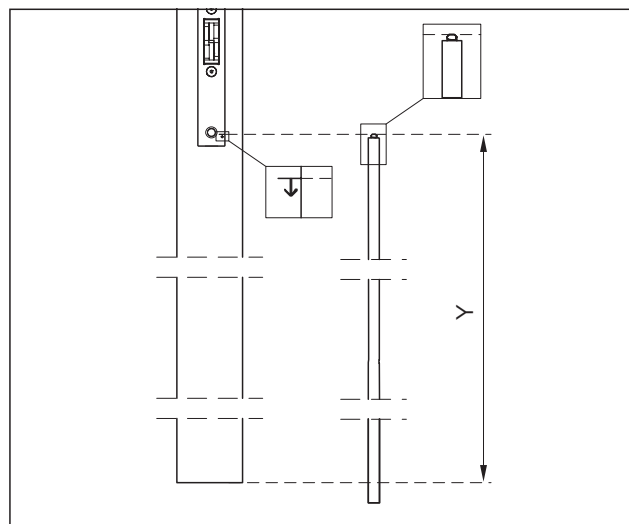

Fig. 43 Determine the length of the lower espagnolette bolt
4. Determine and mark the length of the lower espagnolette bolt (Fig. 43).